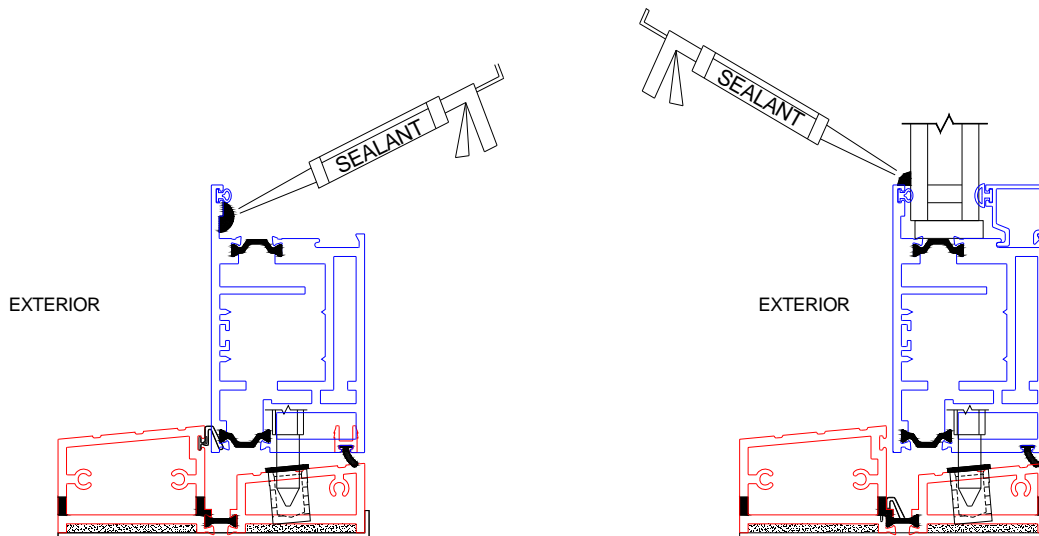

Figure 12
- Apply a continuous bead of sealant before and/or after glazing. (Figure 12).